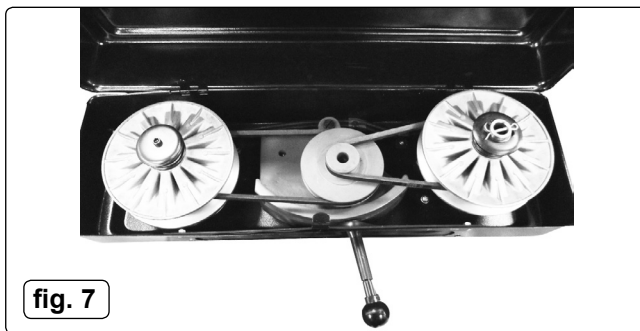

fig. 7
8.4.1. Remove the securing screw and open the belt cover (fig.7).